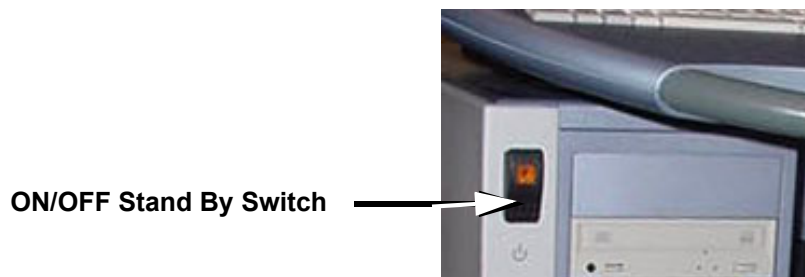

Figure 3-23 ON/OFF Standby Switch
- 1.) Press the **ON/OFF** Standby switch left below the Control Panel; Figure 3-23.